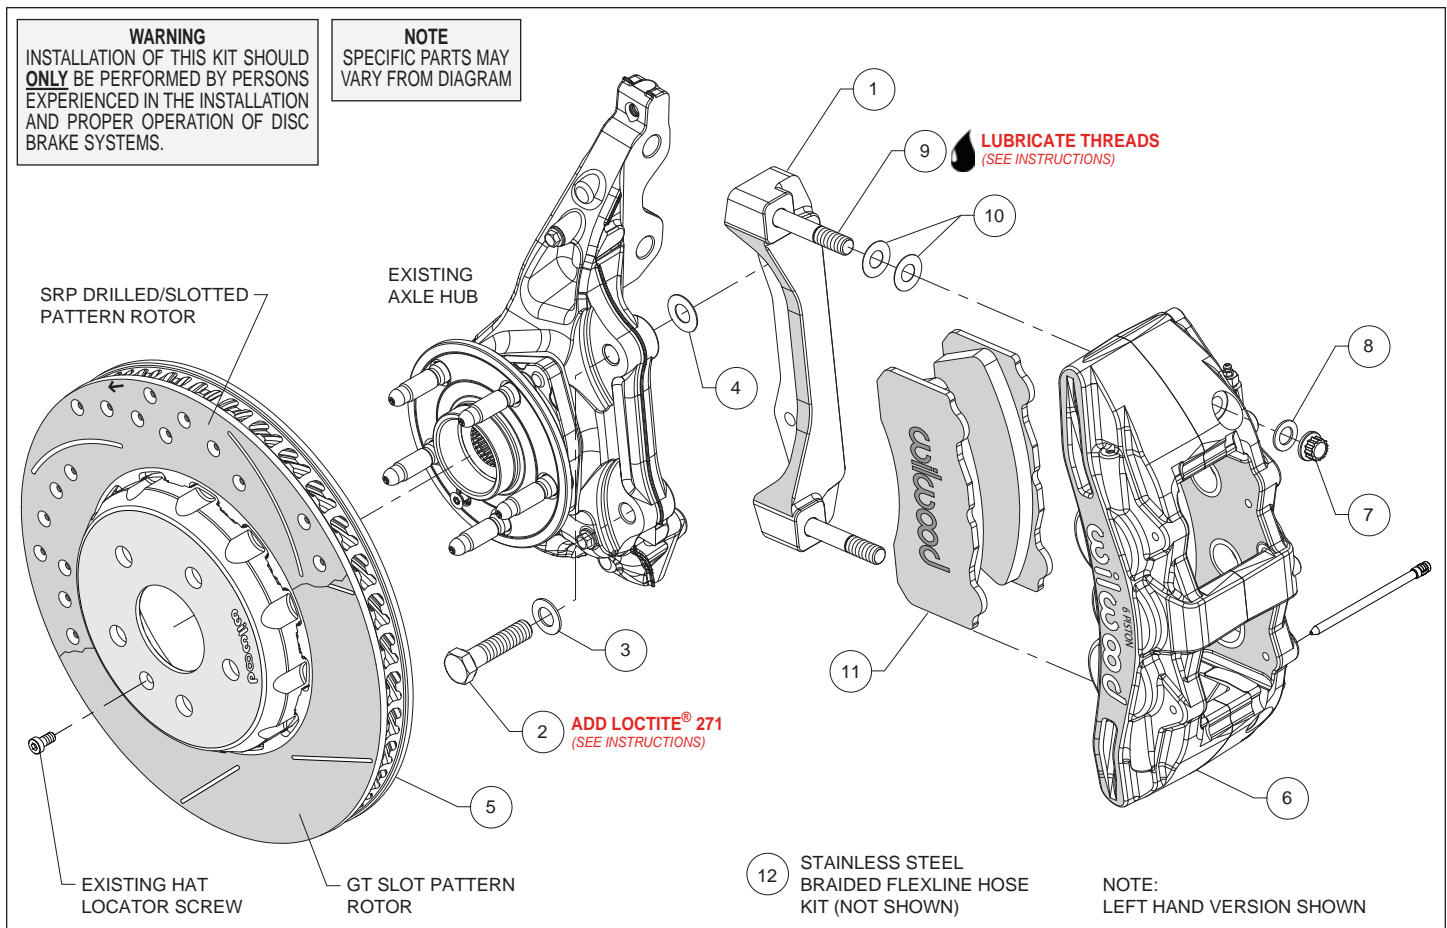

Figure 1. Typical Installation Configuration
Assembly Instructions (numbers in parenthesis refer to the parts list and Figure 1 on the preceding pages):
- The caliper mount bracket (1) should initially be installed with clean, dry threads on the mounting bolts. Orient the bracket, as shown in Figure 1 and Photo 1, and install using bolts (2) and washers (3). Initially place one .029" thick shim (4) on each bolt between the bracket and upright, Figure 1. Temporarily tighten the mounting bolts. **NOTE:** *The bracket must fit squarely against the mount bosses on the upright.* Inspect for interference from casting irregularities, machining ridges, burrs, etc. Later, after the caliper alignment has been checked, the mount bolts will be secured using red *Loctite*[®] 271.
- NOTE:** *This kit contains distinct right and left hand calipers that must be mounted in a specific direction, as described below.* Lubricate the caliper mounting studs (9) with lightweight oil. Initially place two .015" thick shims (10) on each stud between the caliper and the bracket, as shown in Figure 1 and Photo 3. Mount the caliper (6) onto the bracket (1) using lock nuts (7) and washers (8), Figure 1. Temporarily tighten the lock nuts. Ensure that the caliper is mounted so the largest pistons are at the rotor exit end of the caliper, in relation to the direction of the rotor. View the rotor through the top opening of the caliper. The rotor should be centered in the caliper, Photo 4. If not, adjust by adding or subtracting shims (4) between the bracket and the upright. Always use the same amount of shims on each of the two mounting bolts. Once the caliper alignment is correct, remove the bracket mounting bolts (2) one at a time, apply red *Loctite*[®] 271 to the threads, and torque to 77 ft-lbs.
- Remove the two pad retaining pins from the caliper (6) by pushing out the pins from the tapered end using a blunt instrument. Insert the brake pads (11) into the caliper from the bottom, Figure 1 and Photo 5. With the friction material facing the rotor, secure the brake pads in place with the pad retaining pins, Photo 6. Reinstall the caliper onto the caliper mounting bracket and temporarily tighten the lock nuts (7). Check that the top of the brake pad is flush with the outside diameter of the rotor, Photo 7. If not, adjust by adding or subtracting shims (10) between the caliper and the bracket. After the caliper pad height is set, torque the caliper lock nuts (7) to 65 ft-lb.